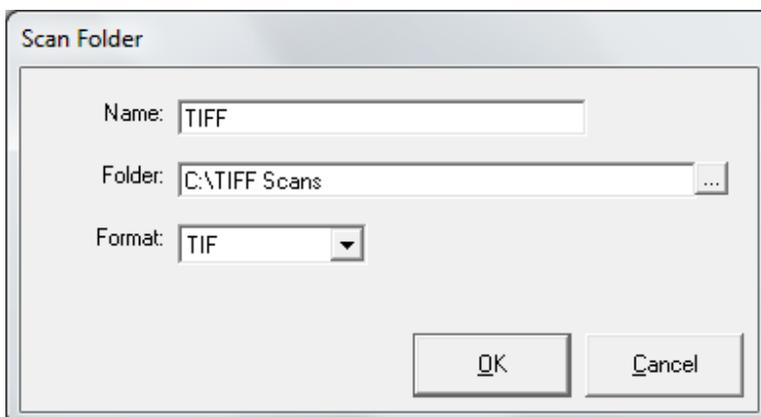

Fig 1-10
6. Repeat the above steps in order to create a scan destination for TIFF images as shown in example fig 1-10.